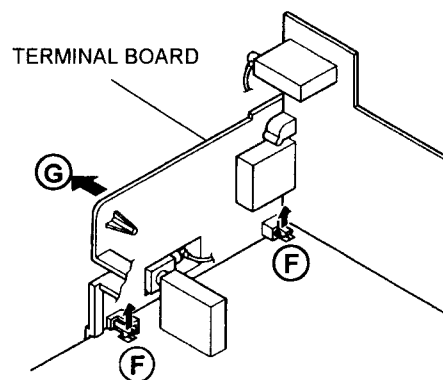
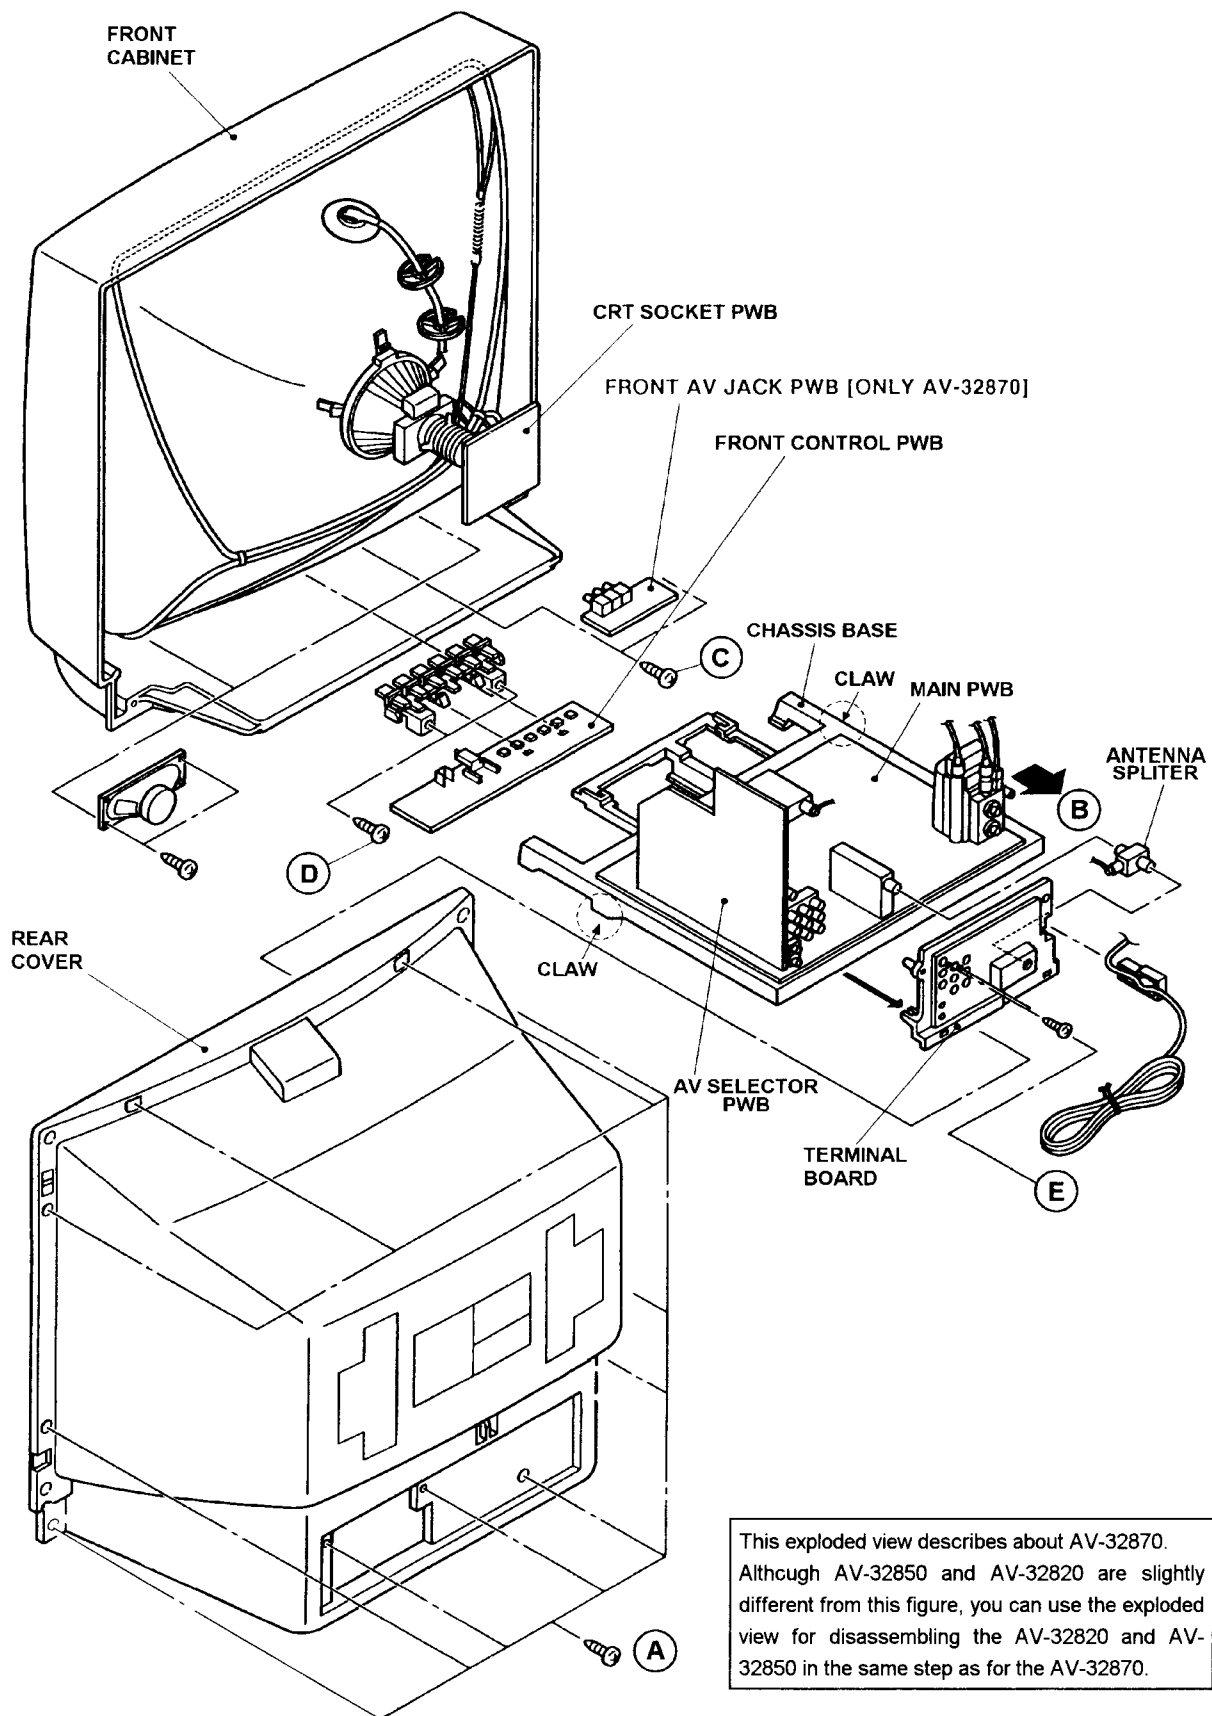

Fig. 1
Fig. 2
2. Remove the 11 screws marked **A** as shown in Fig.2.
2. Draw the chassis backward along the rail in the arrow direction marked **B** as shown in the Fig.2.
1. Remove the 2 screws marked **C** as shown in Fig.2.
1. Remove the 2 screws marked **D** as shown in Fig.2.
1. Remove the 2 screws marked **E** as shown in Fig.2.
2. After removing the claw marked **F** in the direction of arrow mark as shown in Fig.1.
3. When you pull out the AV TERMINAL BOARD in the direction of arrow marked **G** as shown in Fig.1, it can be removed.
(1) Power off Switch off the power and disconnect the power cord from the outlet.
(2) Replace the memory IC. Be sure to use memory ICs written with the initial data values.
(3) Power on Connect the power cord to the outlet and switch on the power.
(4) System constant check and setting <ol style="list-style-type: none"> 1) Simultaneously press the DISPLAY key and VIDEO STATUS key of the remote control unit. 2) The SERVICE MENU screen of Fig.1 is displayed. 3) While the SERVICE MENU is displayed, again simultaneously press the DISPLAY and VIDEO STATUS keys to display the Fig.2 SYSTEM CONSTANT screen. 4) Refer to the SYSTEM CONSTANT table and check the setting items. Where these differ, select the setting item with the MENU UP / DOWN key and adjust the setting with the MENU LEFT / RIGHT keys. (The letters of the selected item are displayed in yellow.) 5) After adjusting, release the MENU LEFT / RIGHT key to store the setting value. 6) Press the EXIT key twice to return the normal screen. 	 <p>Fig.1</p>
(5) Receive channel setting Refer to the OPERATING INSTRUCTIONS (USER' S GUIDE) and set the receive channels (Channels Preset) as described.
(6) User settings Check the user setting items according to Table 2. Where these do not agree, refer to the OPERATING INSTRUCTIONS (USER' S GUIDE) and set the items as described.	 <p>Fig.2</p>
(7) SERVICE MENU setting Verify what to set in the SERVICE MENU, and set whatever is necessary. (Fig.1) refer to the SERVICE ADJUSTMENT for setting.